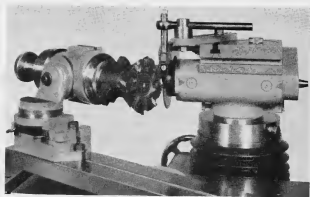

Figure 48A
2. Mount raising block with the workhead fastened on top of it (Figure 48A). This will insure the operator a sufficient amount of clearance when sharpening face of cutter.
8. Mount tooth rest assembly on the eccentric wheelhead (Figure 48A).